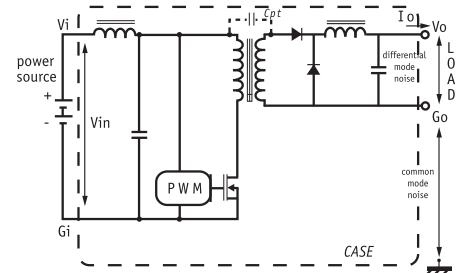

Fig 2 : Power converter output differential and common noise model with isolated case.
- The EMI reference can be a measuring equipment ground if the case of the converter is not grounded (fig 2).